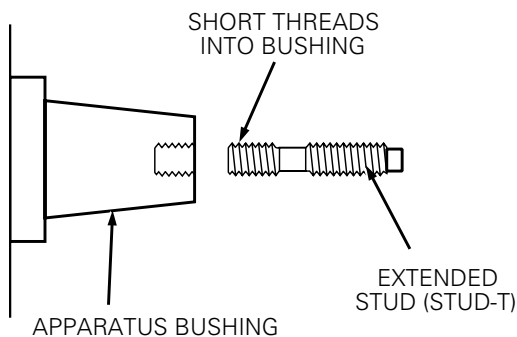

Figure 2. Line illustration of bushing stud installation
- Thread the shorter threaded end of the extended stud into the apparatus bushing until hand tight. (Refer to Figure 2).